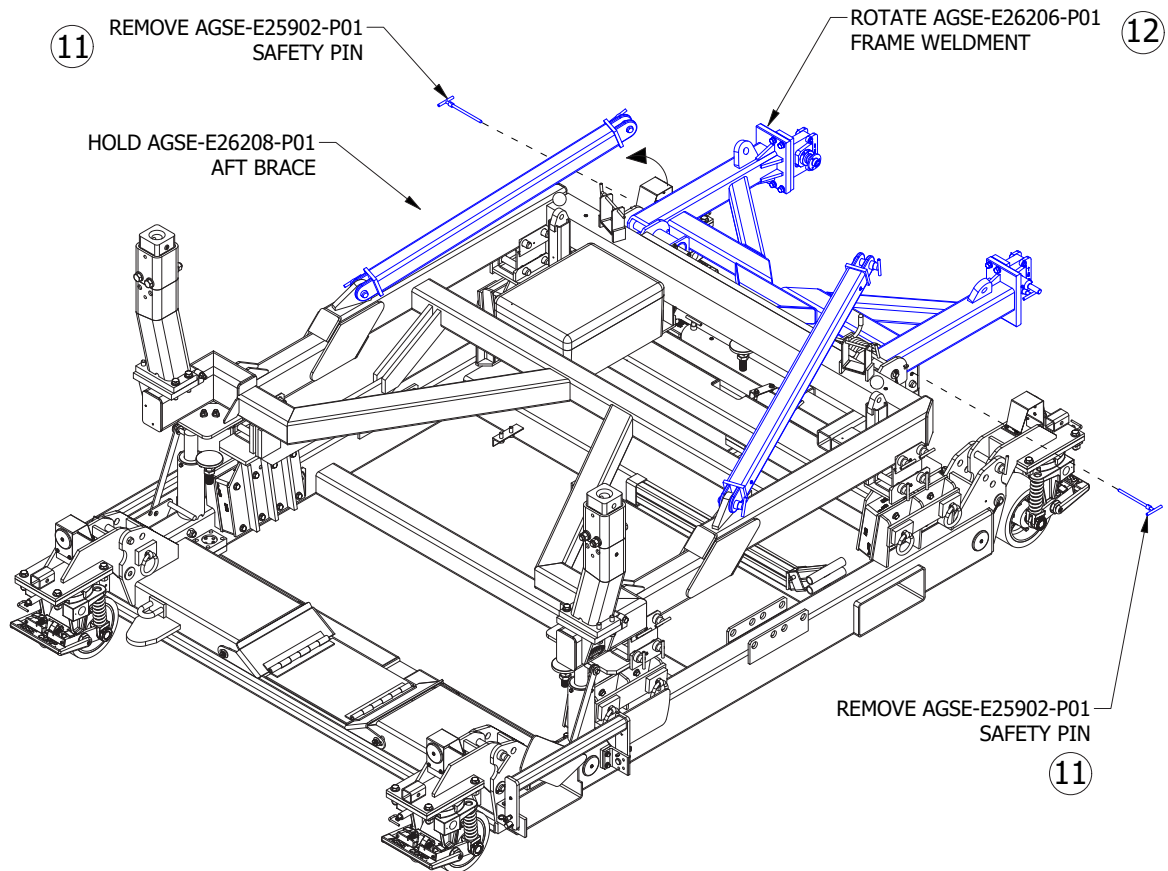

Figure 5.1-5
- 11) Remove two (2) AGSE-E25902-P01 safety pins. (Illustration Figure 5.1-5).
- 12) Rotate the AGSE-E26206-P01 frame weldment to the upright position. (Illustration Figure 5.1-5).